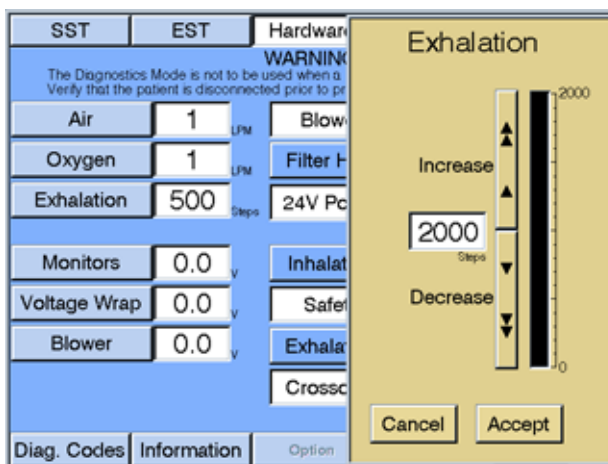

Figure 8-18: Diagnostic Mode - Selecting Exhalation Position
5. Touch **Exhalation** on the Hardware screen and set it to 1470 steps (Figure 8-18).